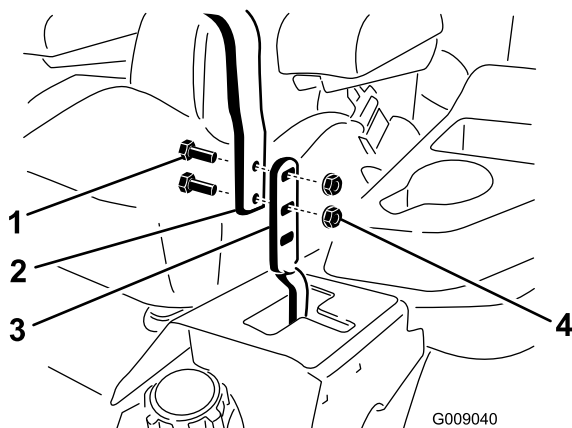

Figure 81
3. Loosen the bolts and flange nuts installed in the levers (Figure 81).